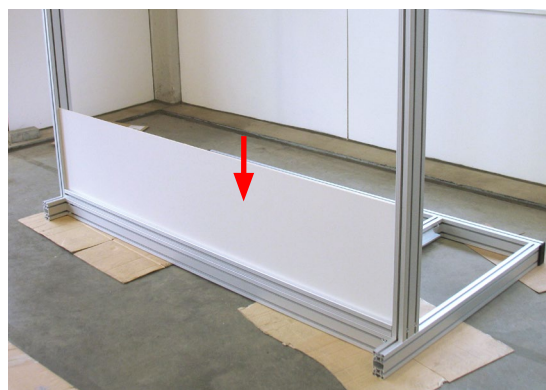

fig. 3.1-18
Step 12 The cover **A2b** is also inserted into the front guide groove (starting from the operator) between the side stands and down to the long frame part **A2c** (*fig. 3.1-18*). Ensure that the cover slots into the groove correctly.